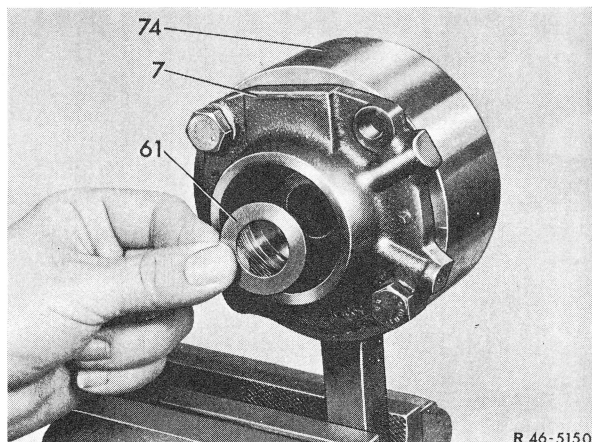

Fig. 2
- 3 Attach bearing cap (7) to device (74), then insert axial disc (61) and then steering worm (3) into bearing cap (Fig. 2 and 3).